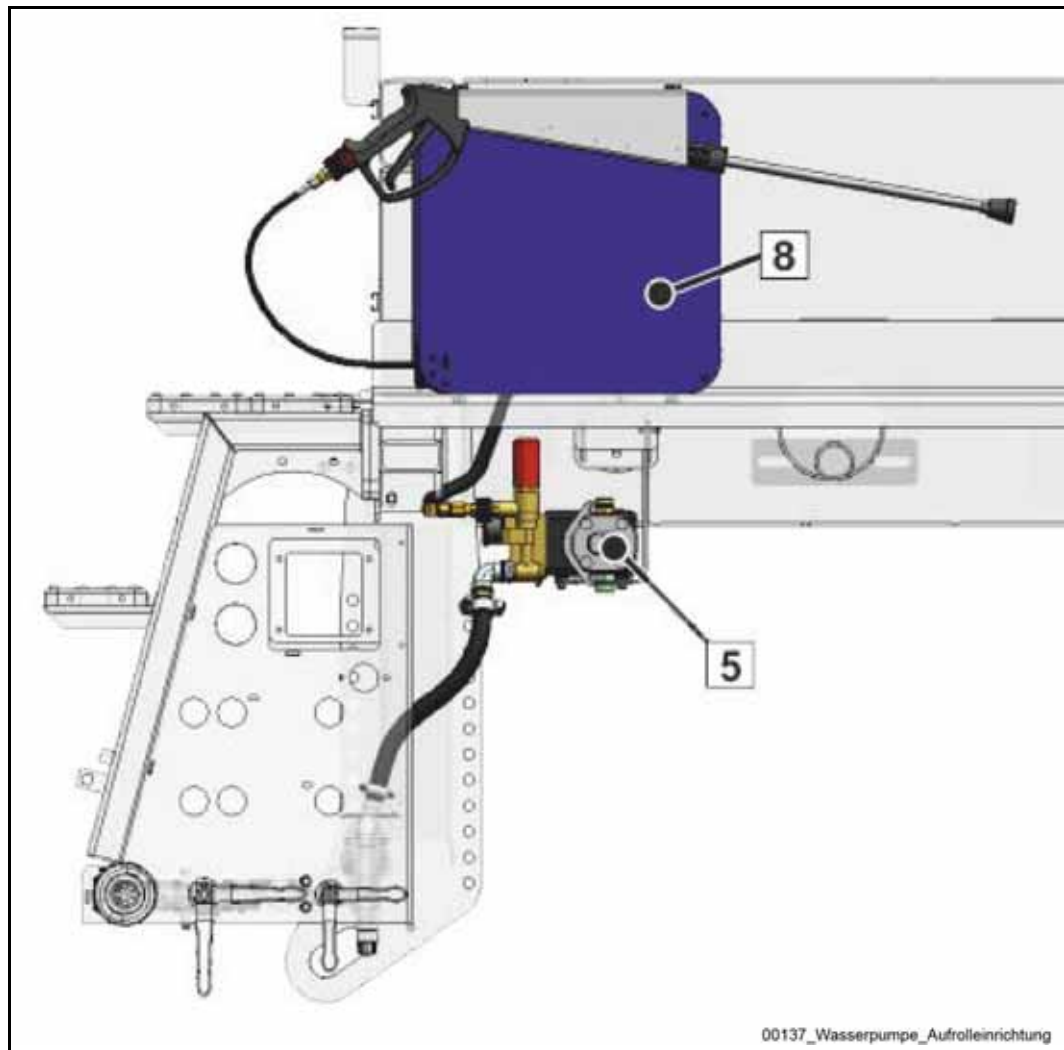

Fig. 40 Water pump and rolling equipment for high-pressure hose
**Caption (Fig. 40 Water pump and rolling equipment for high-pressure hose)**